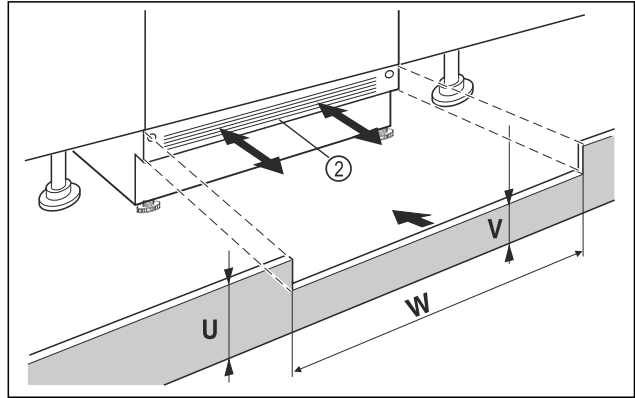

Fig. 40 Example illustration
- Put on the appliance base cover Fig. 40 (2) but do not fix it in place yet.
- If the base panel is visible Fig. 40 (2), pull it forwards so that the front edge of the ventilation grille and the unit base panel are level.
- If the base panel is concealed Fig. 40 (2), push it all the way back.
- Ensure that the ventilation slots are completely free: If necessary, cut the height of the unit base panel Fig. 40 (U) to size!
- Adjust the web height Fig. 40 (V) under the appliance base panel Fig. 40 (2) along the niche width Fig. 40 (W).